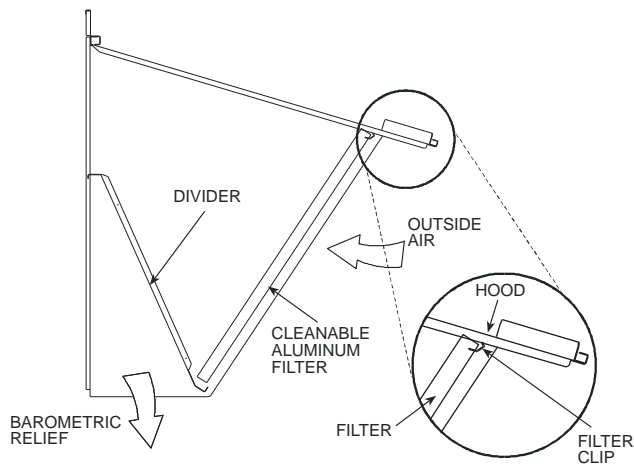

Fig. 23 — Economizer Filter Installation
6. Open the filter clips which are located underneath the hood top. Insert the aluminum filters into the bottom filter rack (hood divider). Push the filter into position past the open filter clips. Close the filter clips to lock the filters into place. See Fig. 23.